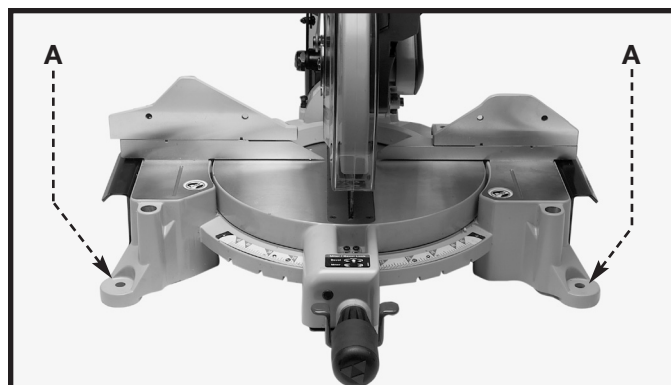

Fig. 8
Before operating your miter saw, firmly mount it to a sturdy workbench or other supporting surface. Four holes are provided, two of which are shown at (A) Fig. 8.